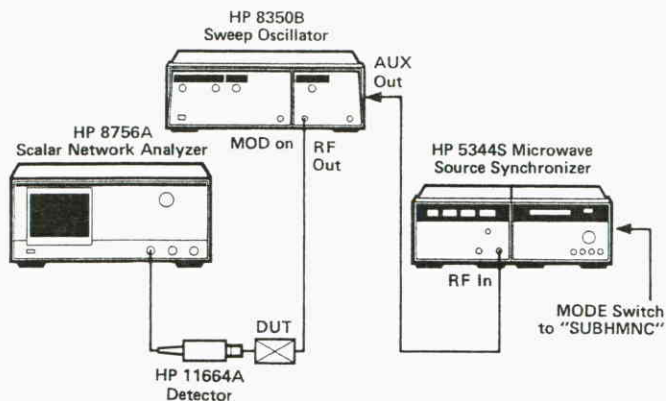

Figure 5. Transmission measurement using SUBHARMONIC/OFFSET Lock. The counter samples the rear panel AUX OUTPUT.
If the sweeper plug-in has a rear panel AUX OUTPUT (HP 83590 series and HP 86290 series RF plug-ins), then the HP 5344S subharmonic/offset locking mode can be used (see figure 5). In this mode the counter
If you are using any of the sweeper plug-ins listed in table 1, you can take advantage of the subharmonic/offset locking function of the HP 5344S. This enables you to use a much simpler RF configuration like the one shown in figure 5.
2. Connect the RF measurement system, such as the one shown in figure 5. The counter input should come from the plug-in's AUX OUTPUT.